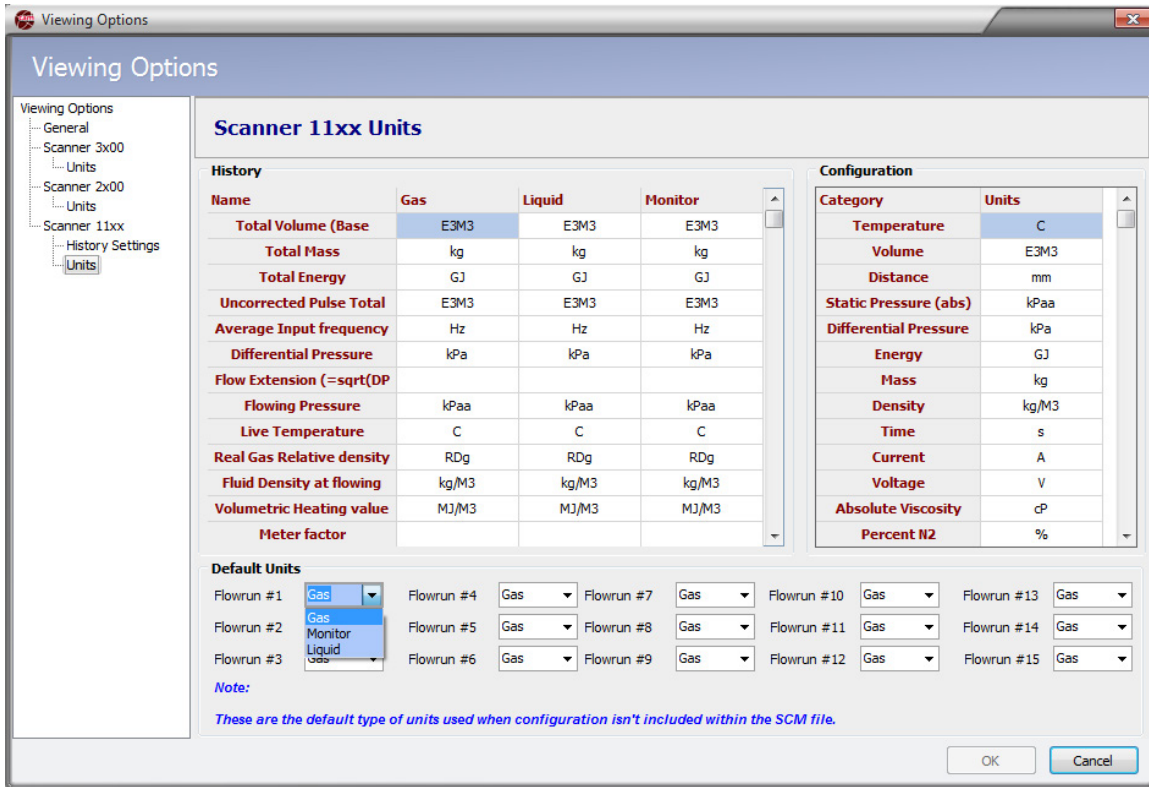

Figure A.5—Scanner 11xx unit selections
2. Click in the appropriate field in the “History” area or the “Configuration” area (Figure A.5, page A-5) and select the unit in which the archive file data will be viewed from the dropdown list.